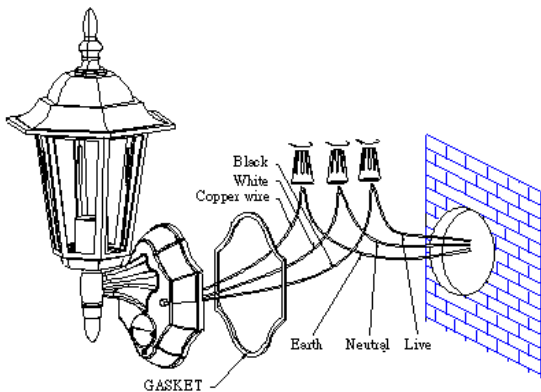

FIGURE 10
- (3) Place the gasket in position before wiring.
- (4) Connect the black wire from the fixture to the black (Live) power supply wire from your power source using the wire nuts provided. Connect the white wire from the fixture to the white (Neutral) power supply wire using the wire nuts provided. Connect the copper colored ground wire from the fixture to house ground wire using the wire nuts provided. (FIGURE 10)